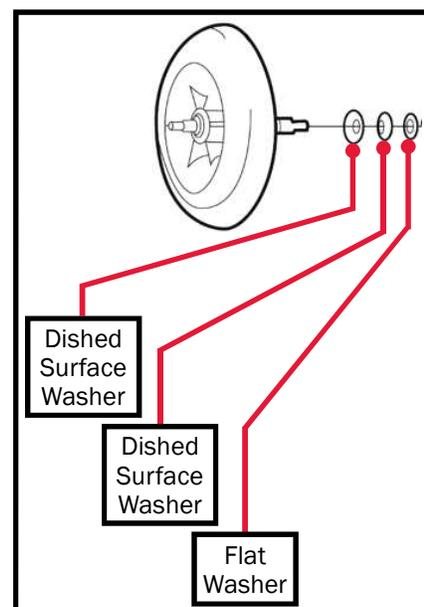

Figure 115
NOTE: Be sure to observe the placement of the three washers of the bearing kit. To ensure proper tension, the same order and direction of the dished surfaces of the washers must be followed when reassembling. See Figure 115.
- Reference Figure 115 for exact placement of the three washers that slide over the threaded end of the combustion air blower's shaft prior to installation. Failure to follow the correct order and direction of the dished surfaces on the washers will result in a restricted rotation of the combustion air blower.